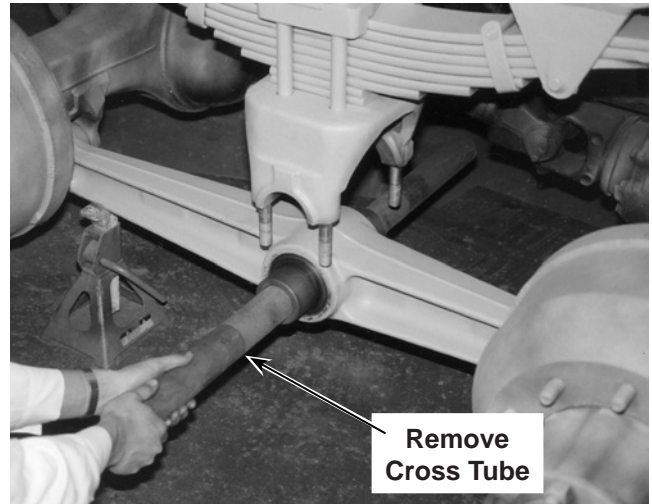

Figure 2
4. Remove the cross tube. See Figure 2.